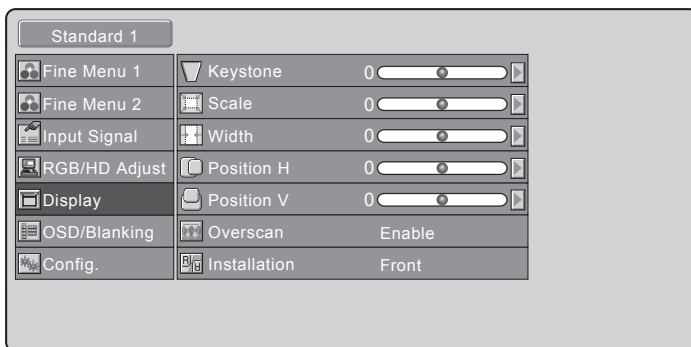

Figure 17
4. Press the Navigation ►RIGHT push-button plus the ▲UP or ▼DOWN Push-button select the correct orientation of the projector relative to the screen. Refer to figure 17.
2. Using the Navigation ▲UP or ▼DOWN Push-button, select DISPLAY from the Main Menu choices. Refer to figure 17.